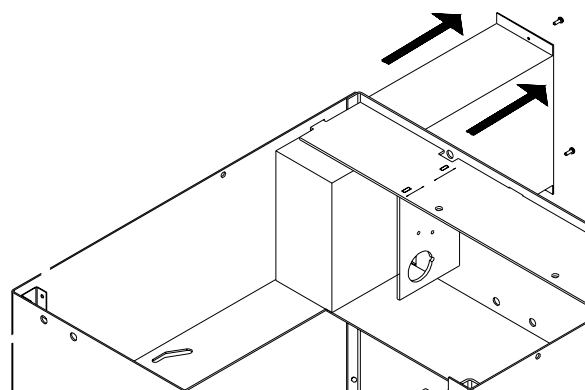

Figure 3-31
3. From the rear of the machine remove the two screws holding the Power Supply box. (Figure 3-31) simply pull the box out the back paying special attention to the wiring harness that are connected.